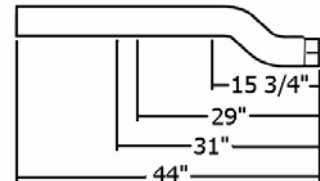

Figure 8
- Install the **Muffler** over the **Extension Pipe**. Install the **Hanger Clamp** at the connection between the **Muffler** and the **Extension Pipe**. **See Figure 8.**